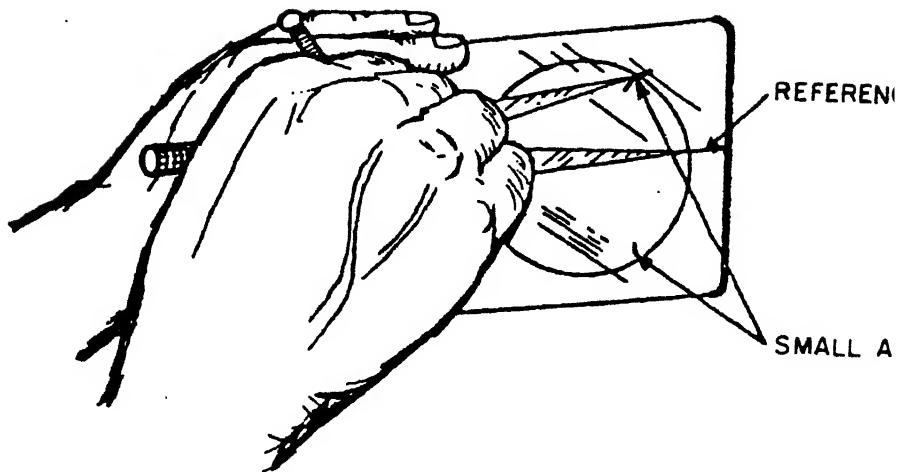

FIGURE 8
- Using the dividers, scribe a small arc that intersects the circle on both sides of the reference line. See figure 8.